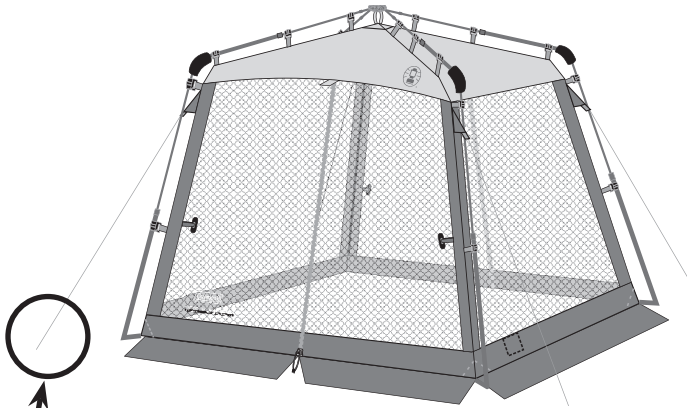
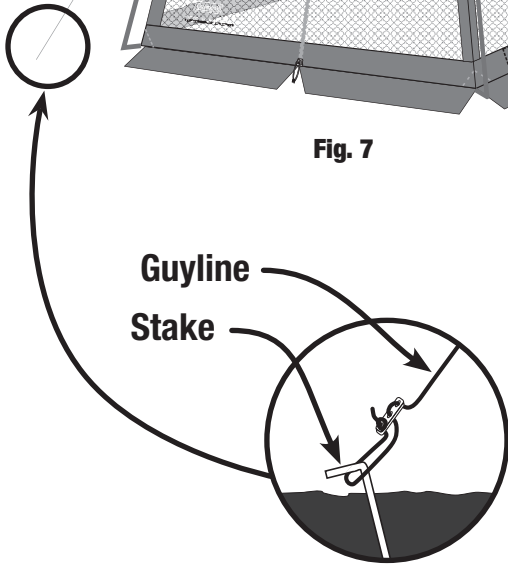

Fig. 7
Fig. 8
- Attach and stake out guylines. (Fig. 7 and Fig. 8)
- Remove guylines and stakes. (Fig. 7 and 8)